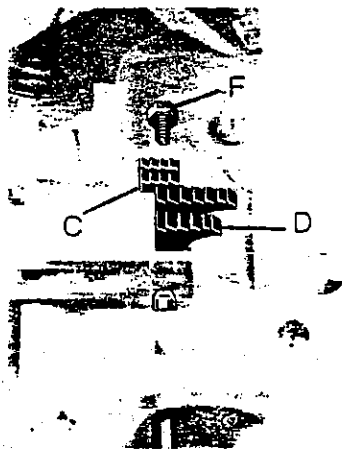

fig. 11
8. Mounting and setting Feed Dogs (figures 11 and 12)
- Mount rear feed dogs C and D (fig. 11) and match the feed dog slides.